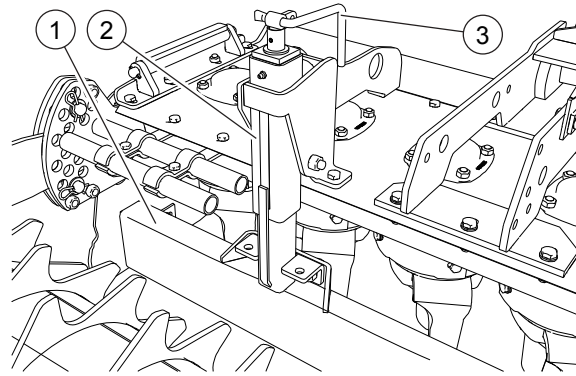

FIG. 33
To level and crumble the soil to a greater degree, the harrow has a levelling bar (1, "Fig. 33") positioned behind the tines. It can be adjusted in height by means of crank screws (2, "Fig. 33"). Make the adjustments by keeping the bar at the same distance from the soil as far as possible. Avoid using the bar at depth as it could be damaged. It is recommended to start working with the levelling bar in a high position. Set gradually the position of the bar by rotating the crank(3) until the desired position is reached.